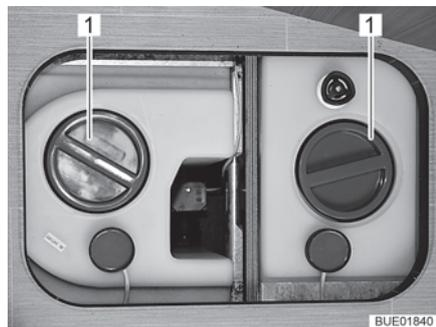

Fig. 210 Water tank with rotary handle
- Remove the cap (Fig. 210,1) of the water tank.